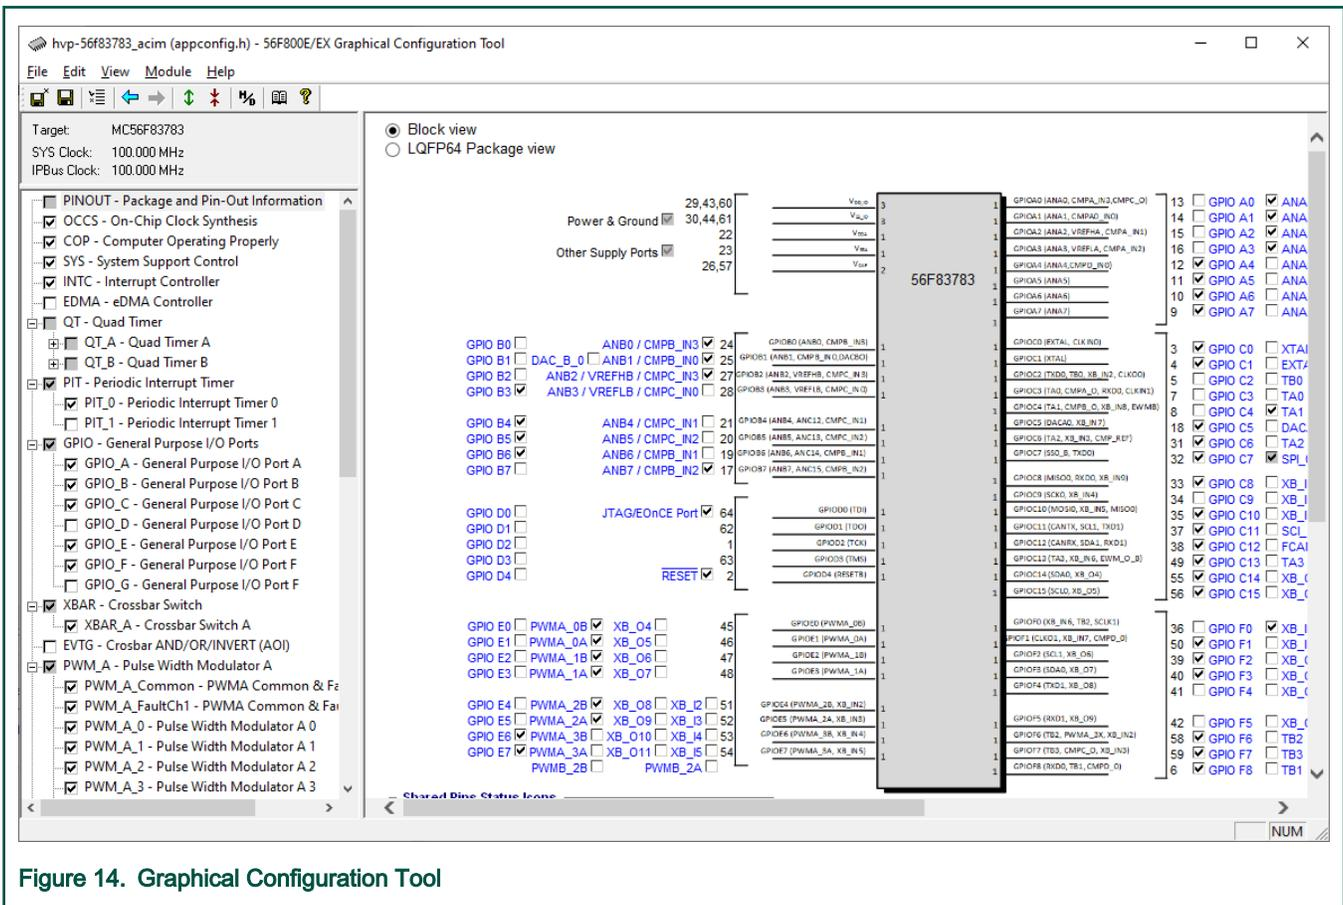

Figure 14. Graphical Configuration Tool
- Graphical Configuration Tool (GCT) – see Figure 14